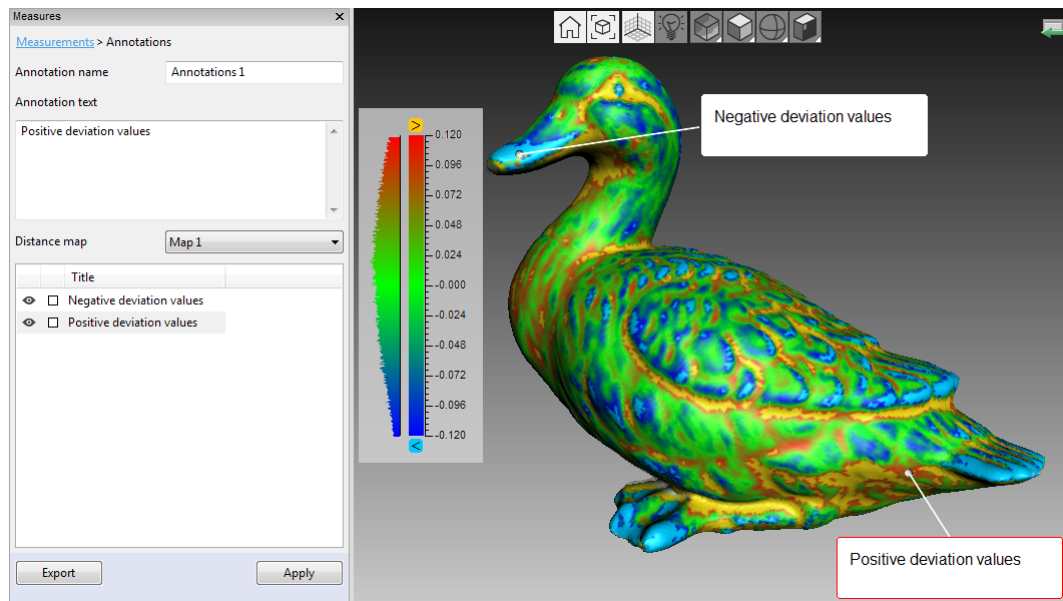

Figure 9.14: Annotation of a model layered with a surface-distance map.
Annotations tools allow you to mark noteworthy surfaces and surface-distance maps. The annotation can include one or more labels, which look like rectangular tags with connecting lines pointing to the corresponding surface elements (see Figure 9.14).
5. Repeat Steps 3 and 4 to create a new label. In addition to tagging the surface, each new label will appear in the annotation list of the *Measures* panel (see Figure 9.14). You can show or hide labels in the list or change their colors by clicking **RMB** and selecting the appropriate option from the menu. Alternatively, toggle the selection flag  or click the square button to show/hide labels or change their colors, respectively.
- Select the label in the *3D View* window; its border color will become red (see selected label in Figure 9.14). Hit the `Del` key.